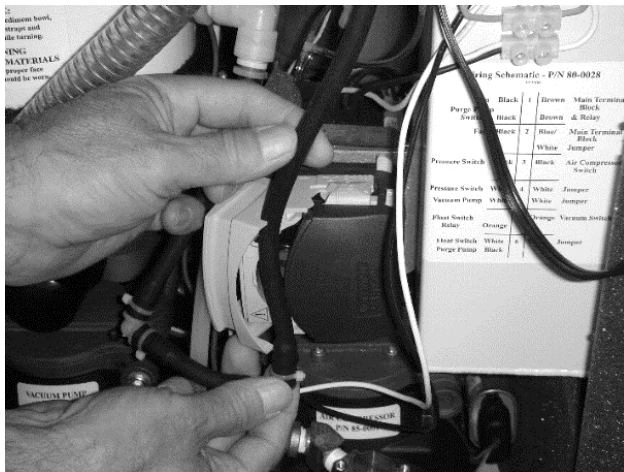
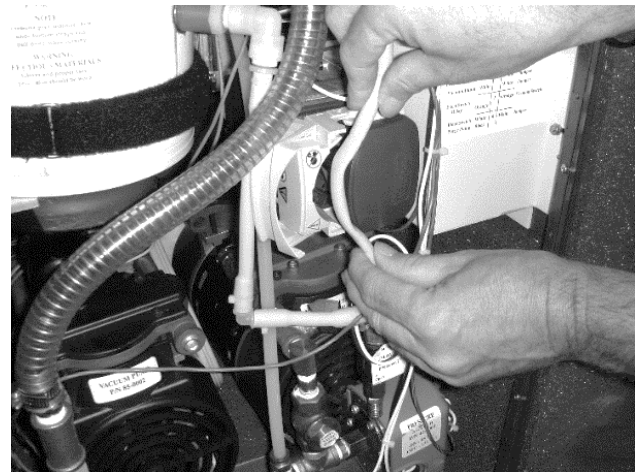

Fig. 3
Fig. 4
- 5 Remove the existing black or beige purge pump tubing from the housing. (Fig. 3) (Fig. 4)